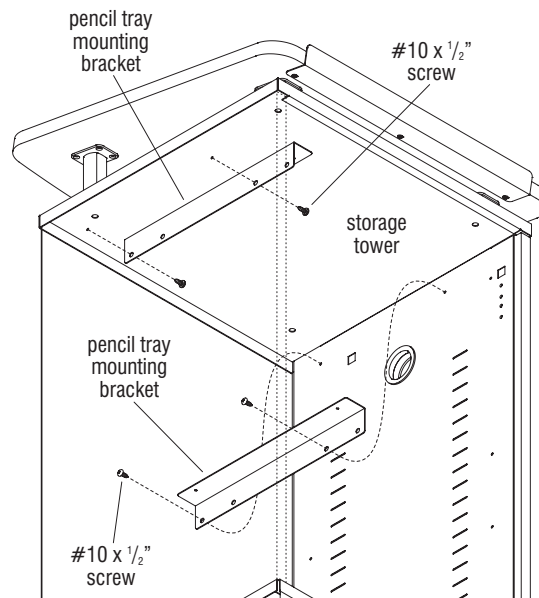

Figure 9
2. Secure each pencil tray mounting bracket with the upper mounting holes inside the storage tower using two #10 x 1/2" screws. Take care to not over tighten (Figure 9).